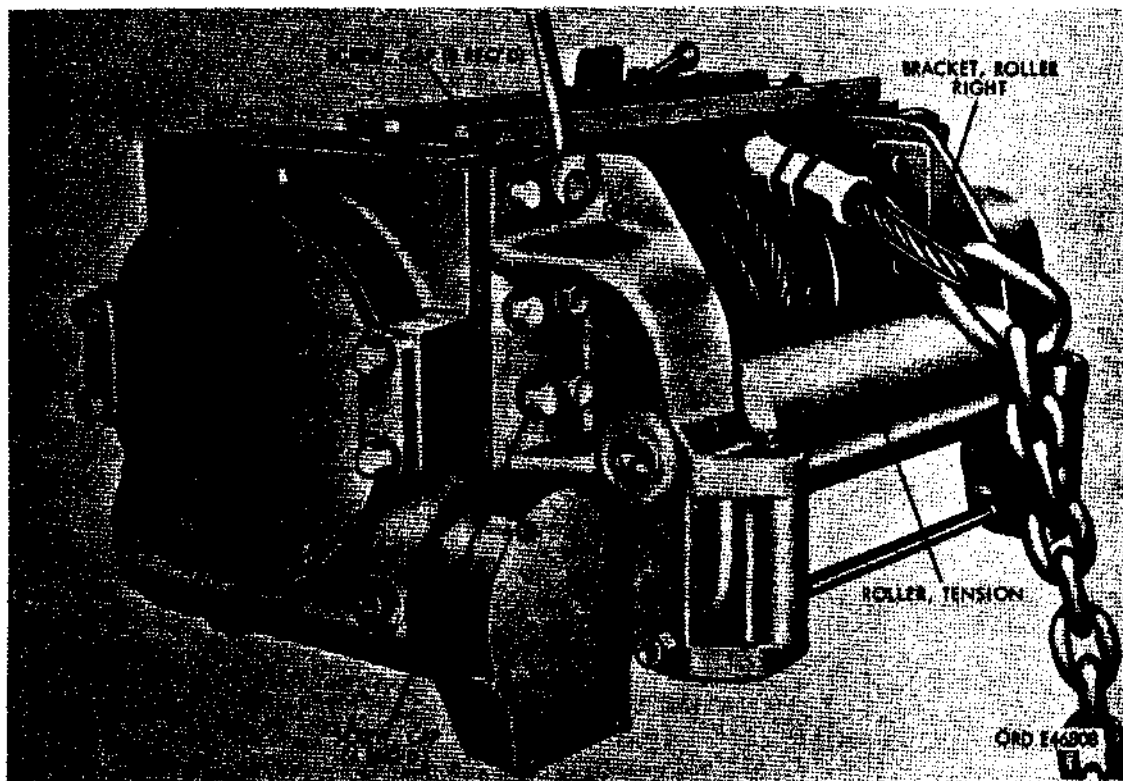

Figure 38. Removing tension roller assembly
- (a) Remove six cap screws and lockwashers from left and right roller bracket (fig. 38) and remove roller assembly.